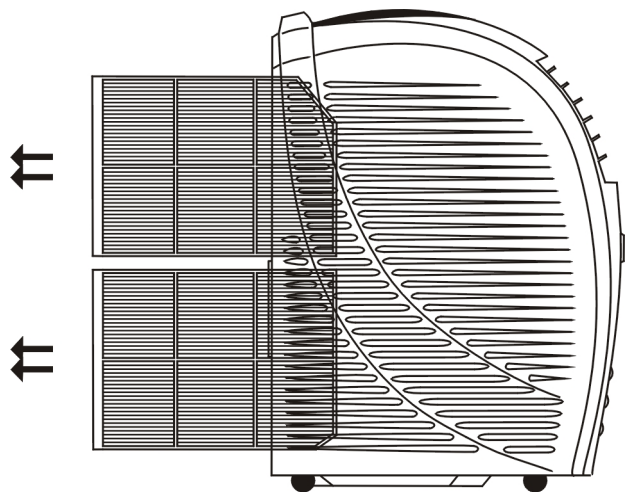

Fig. 14
- 1) Pull out the air filter as Fig.14.